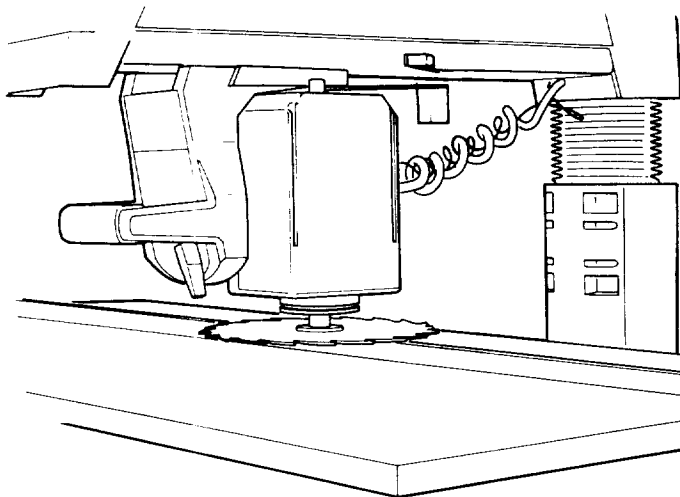

Fig. 84
3. Unlock the *bevel lock*, and turn the *motor* so that the *blade* is parallel to the *table*. (Figure 84)